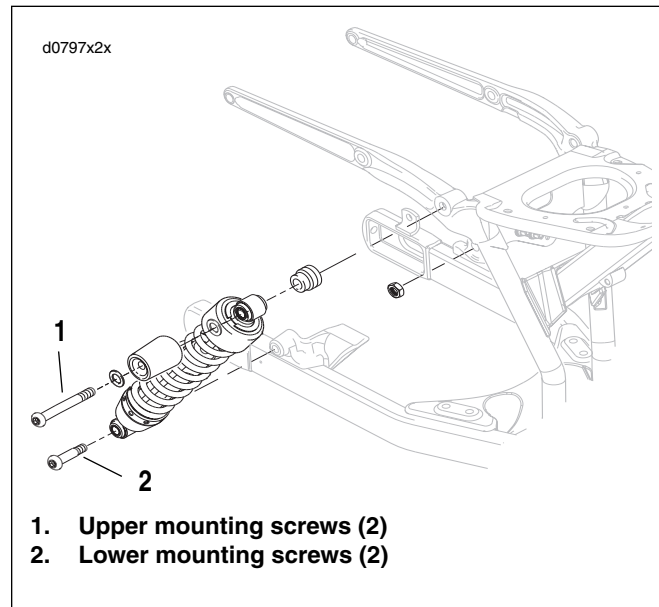

Figure 2-11. Rear Shock Mount
5. See Figure 2-11. Loosen, but do not remove, left and right **upper** mounting screws (1).
6. Remove left and right **lower** shock mounting screws (2).